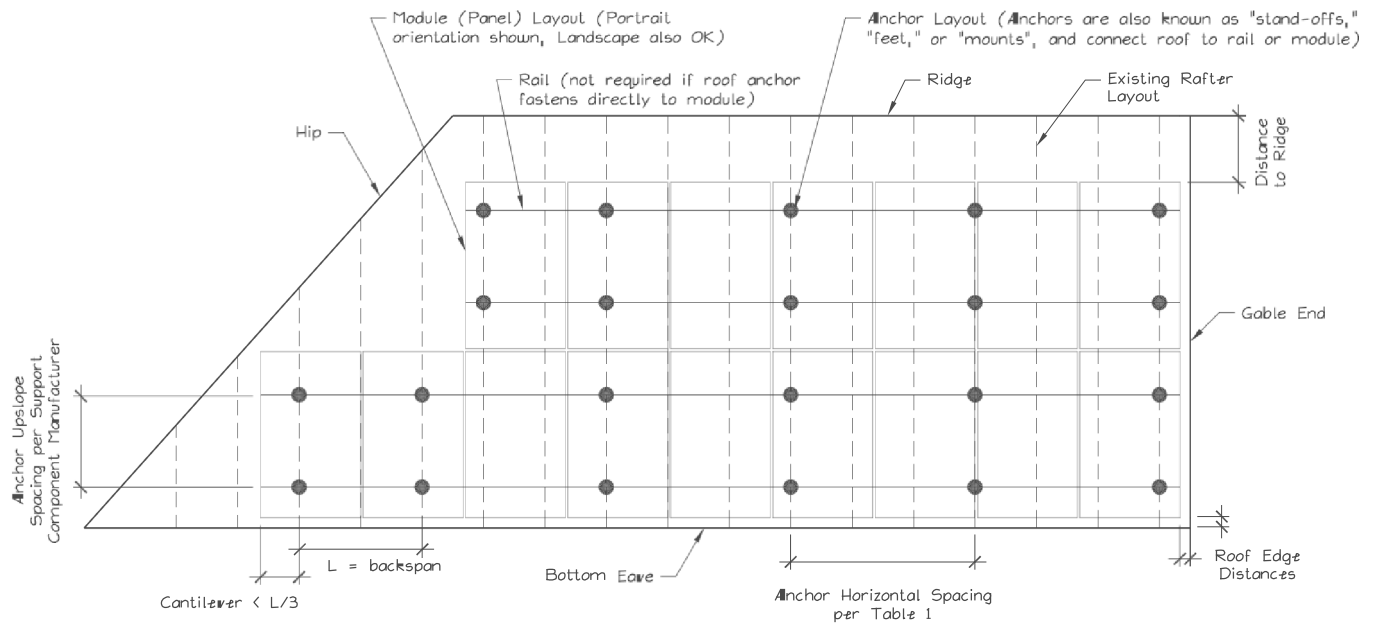

Figure 2. Sample Solar Panel Array and Anchor Layout Diagram (Roof Plan).
1. Anchors are also known as “stand-offs”, “feet”, “mounts” or “points of attachment”. Horizontal anchor spacing is also known as “cross-slope” or “east-west” anchor spacing (see Figure 2).
E. Is a roof plan of the module and anchor layout attached? (see Figure 2)
- 1) Proposed anchor horizontal spacing (see Figure 2): _____' - _____"ft-in